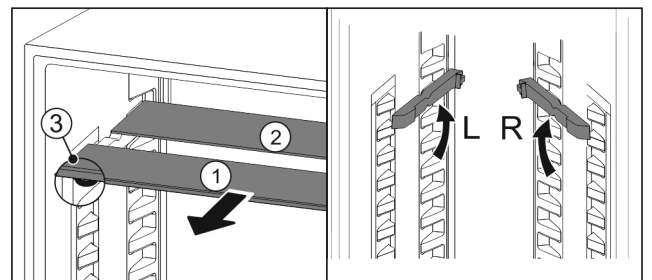

Fig. 120
- Pull the glass panels out Fig. 120 (1) from the front, one at a time.
- The glass panel Fig. 120 (1) and trim strip are at the front.
- The stops Fig. 120 (3) point down.